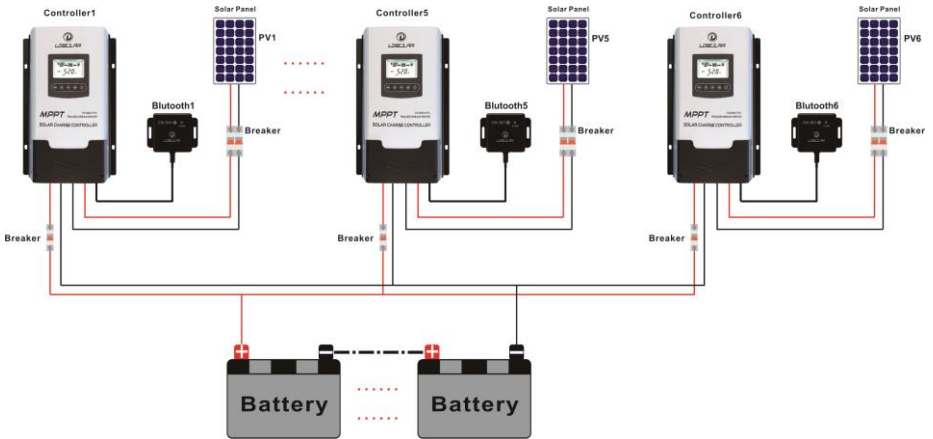

Figure 2-2 Schematic of wiring diagram
Connect the system in the order of ①battery ② PV array in accordance with Figure 2-2, "Schematic Wiring Diagram". and disconnect the system in the reverse order ②①
①Single controller
②Connection in parallel